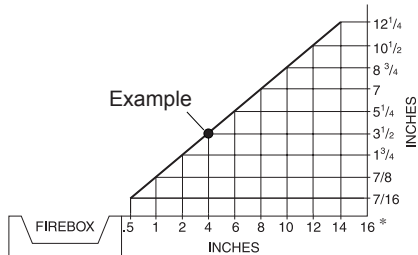

Figure 8 - Minimum Clearance for Combustible to Wall
A. Clearances from the side of the fireplace cabinet to any combustible material and wall should follow diagram in Figure 8.
Example: The face of a mantel, bookshelf, etc. is made of combustible material and protrudes 3 1/2" from the wall. This combustible material must be 4" from the side of the fireplace opening (see Figure 8).